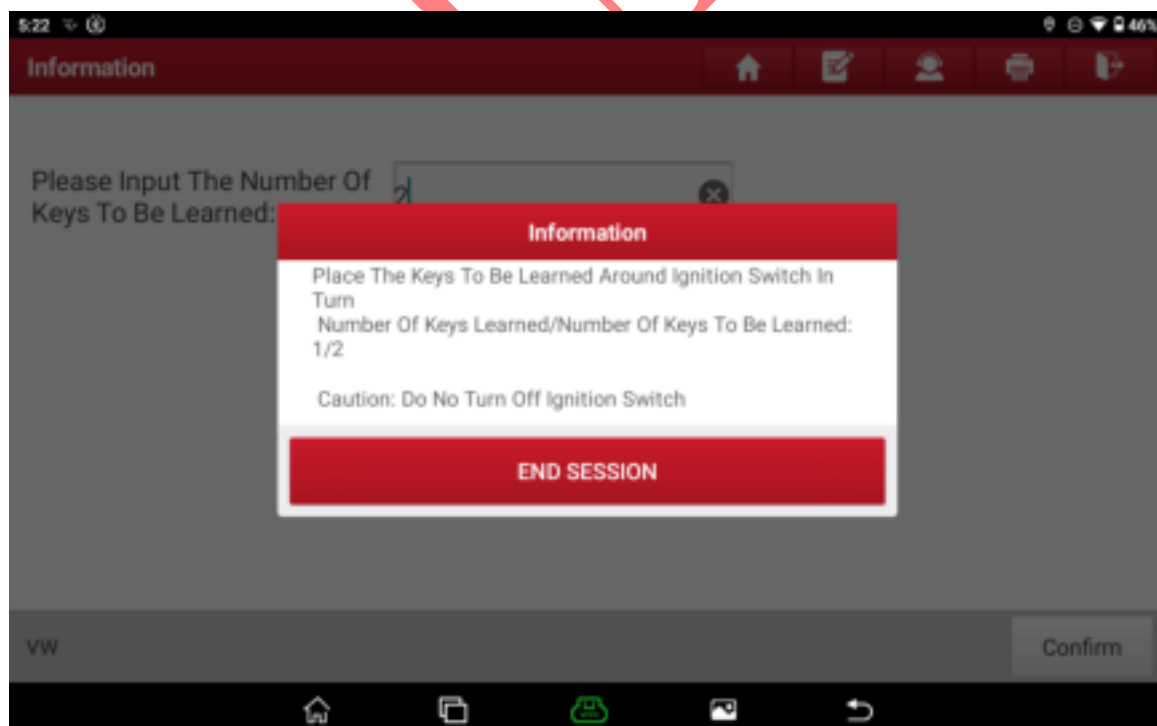

Figure 34
33. After the first key is successfully learned, directly replace it with the second key and paste the second key on the sensing area, as shown in Figure 34.